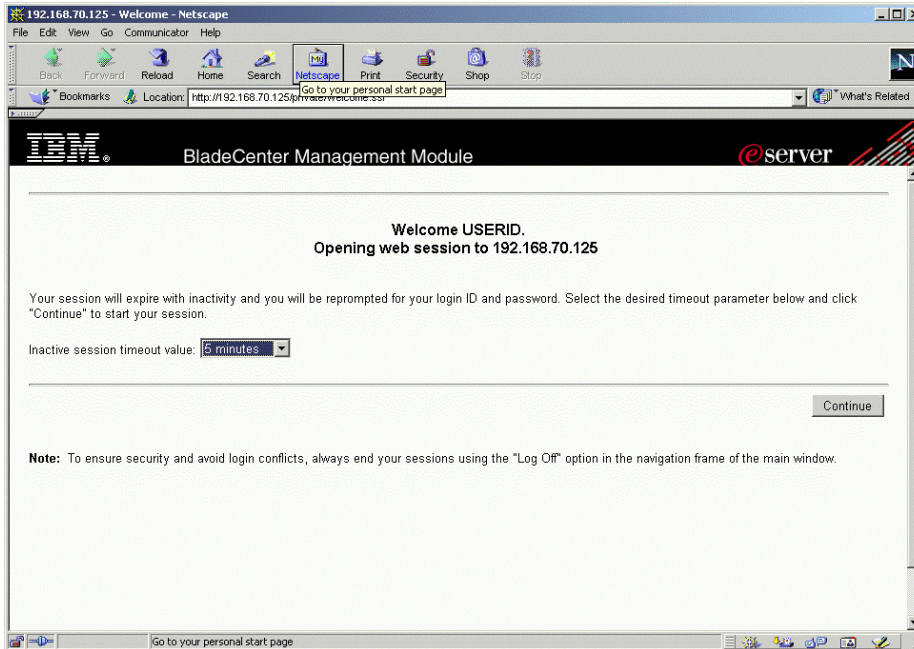

Figure 4. BladeCenter Management Module welcome screen
3. The BladeCenter Management Module welcome screen, shown in Figure 4, is displayed. Change the Inactive session timeout value to no timeout, and click **Continue**.